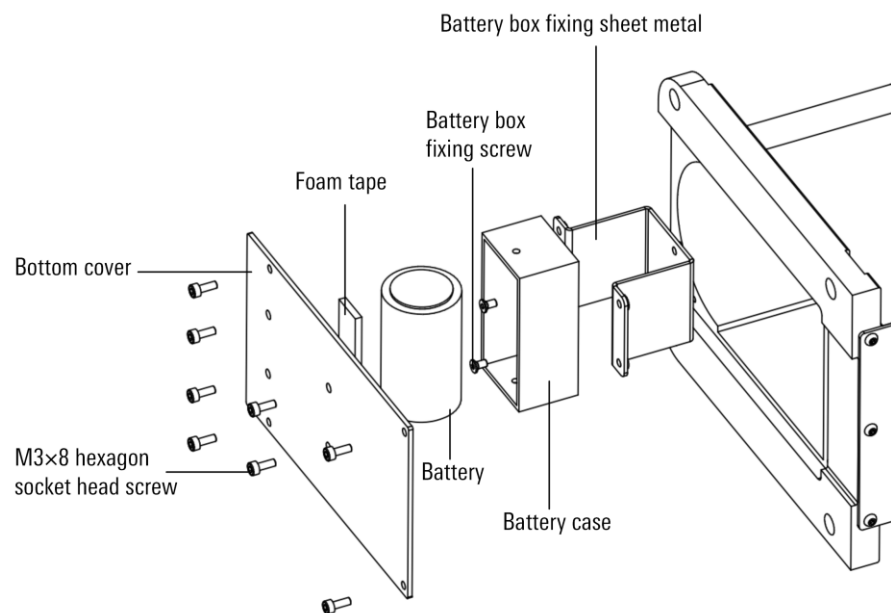

Figure 8-5 Schematic diagram of removing the battery box
- Step4. Use an Allen wrench to remove the eight M3×8 hexagon socket head screws located on the bottom cover and remove the bottom cover of the manipulator base. Pay attention to the internal cables to prevent damage caused by strong pulling. Disconnect the connector and remove the battery box fixing sheet metal from the bottom cover, you can see the battery, as shown in Figure 8-5.